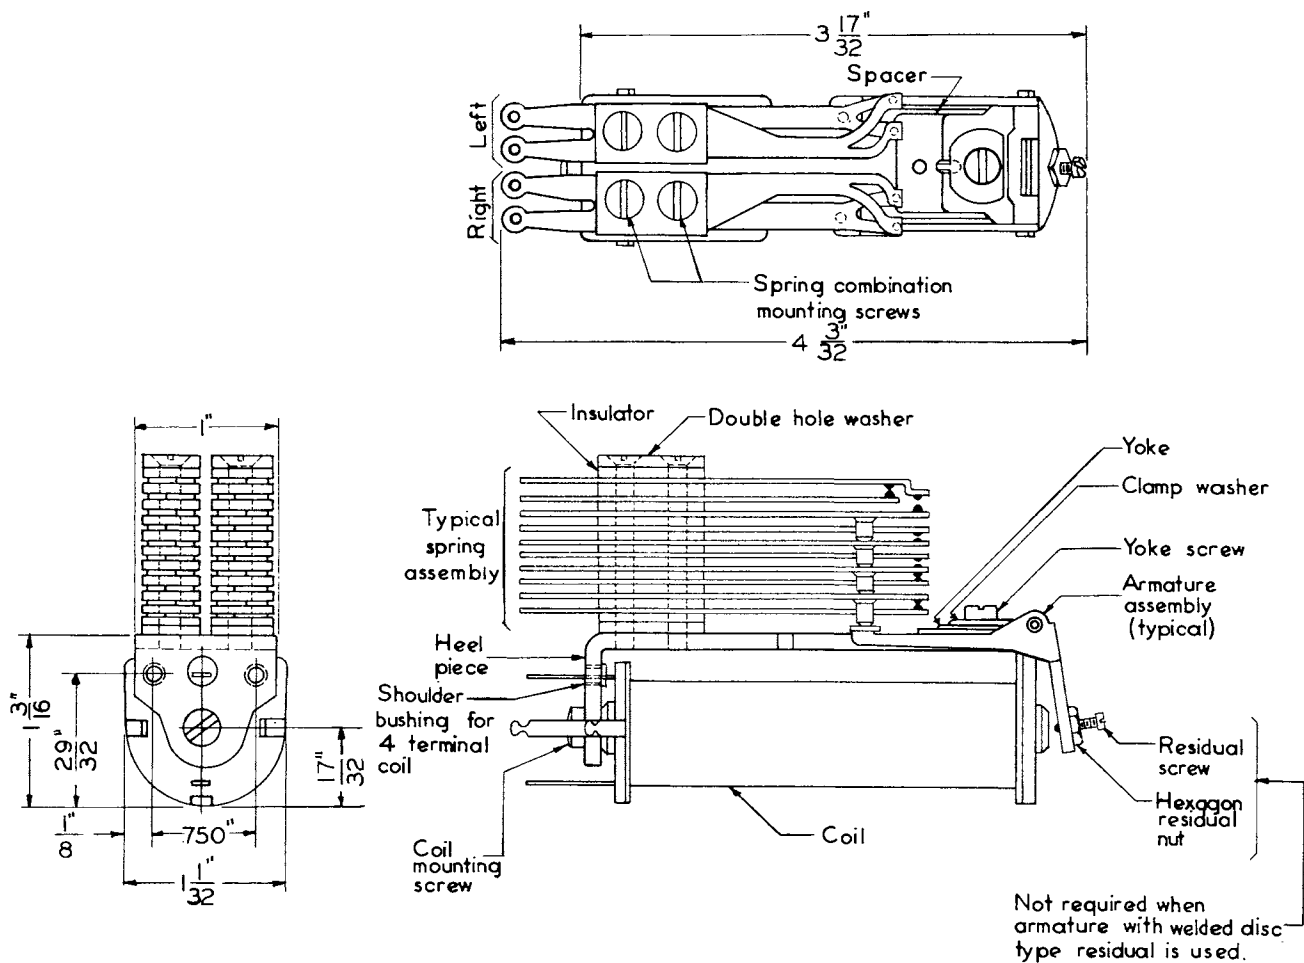

Figure 3. Typical class B relay with long-lever armature.
**1.11 Class B relays:** Class B relays extend  $3 \frac{17}{32}$ " beyond their mounting (see figure 3) and the over-all length is  $4 \frac{3}{32}$ ".\* The width of the relay depends, of course, on the number of